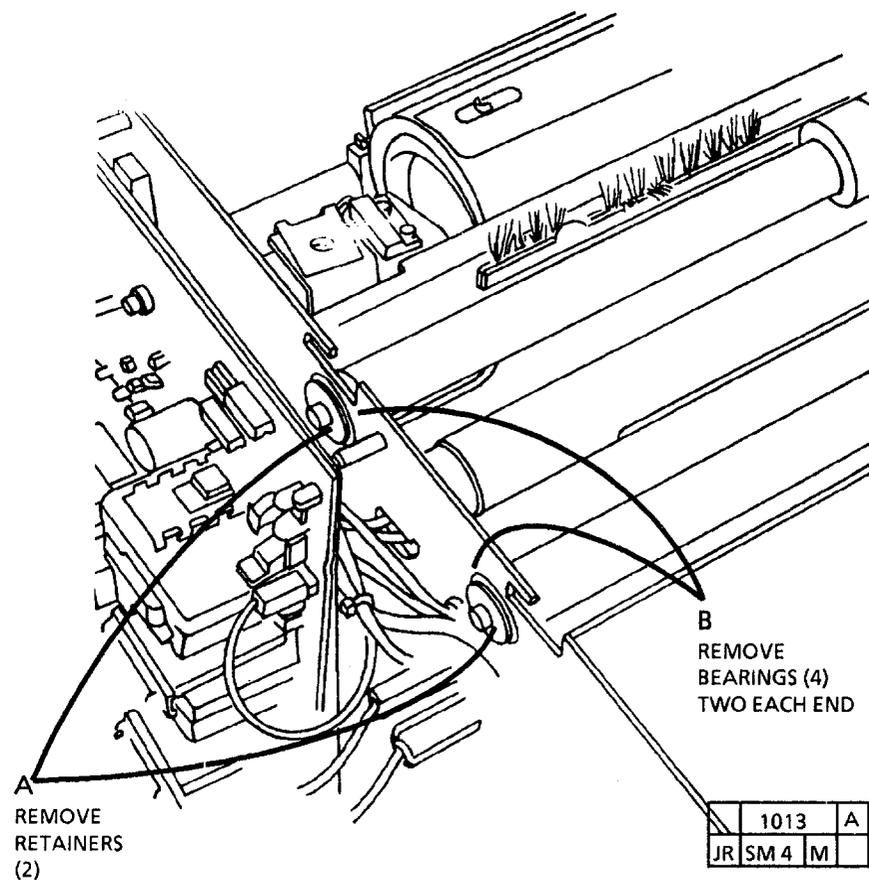

Figure 2. Remove the Bearings from Left Side
7. (FIGURE 2): REMOVE THE BEARINGS FROM LEFT SIDE.